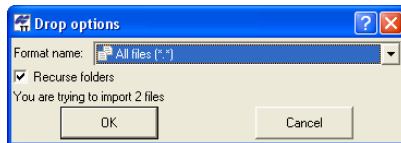

Figure 3-2. Drop Options for Drag-and-drop Importing
- When using this procedure with the right mouse button, the *Drop options* dialog box displays for increased import control (Figure 3-2). Click **OK** to continue.